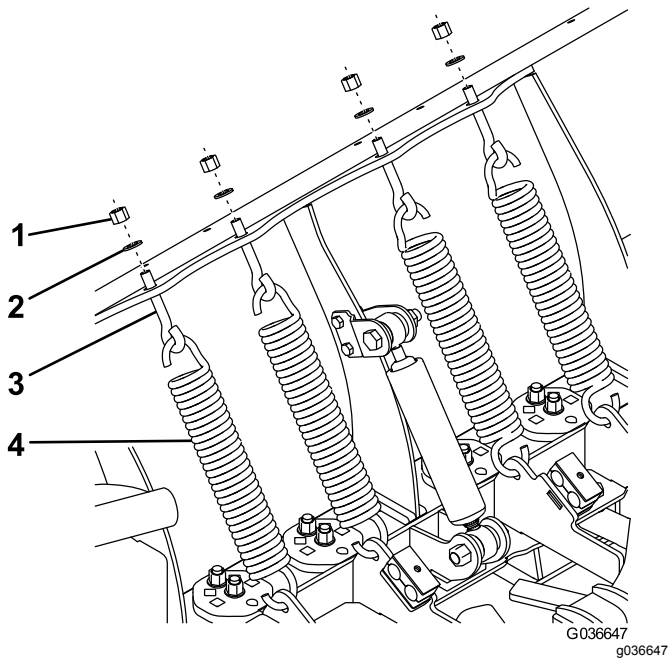

Figure 6
- Hook the 4 trip springs through the holes on the push-frame assembly (Figure 6).
- Hook the other ends of the trip springs to 4 eyebolts (Figure 6).
- Insert the threaded end of the eyebolts through the holes on the plow blade and secure them using 4 washers (1/2 inch) and 4 self-locking nuts (Figure 6).